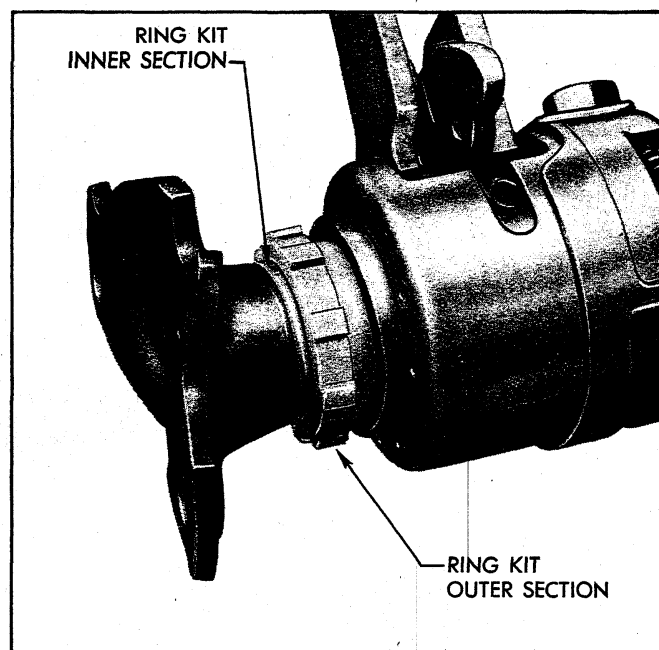

Fig. 52—Tolerance Ring Kit—First Adjustment
10. Screw tolerance ring kit sections together leaving enough inner edge exposed for later adjustment (fig. 52).